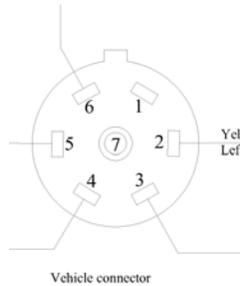

Figure 1
The Chassis system consists of the necessary electrical components to operate the unit while being towed. Refer to electrical schmaintic # 109709. Power and Ground for the electrical system is supplied to the unit through the “Bargman” plug connected to the tow vehicle. Bargman plug is a six (6) wire type system, Table 1, Figure 1.
All these lamps are supplied current through a Green wire, which terminates at the vehicle connector, Fig 1. The tow Vehicle needs to be able to supply 6 amps to the Clearance/Tail lamp circuit.